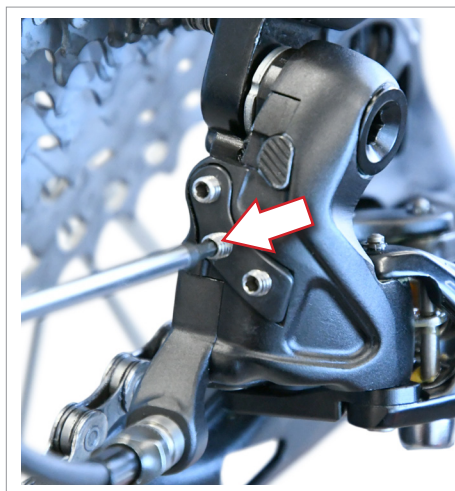
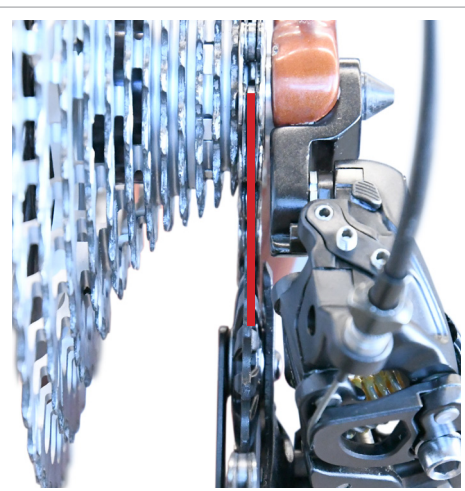

Fig.9
Fig.10
• Turn the screw (Fig. 9) until the centre section of the upper wheel is perfectly aligned with the first sprocket (Fig. 10).